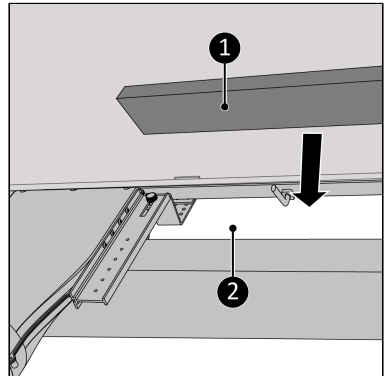

Figure 102.
15. Fill up the open spaces (Figure 102, pos. 2) with the delivered isolation foam (Figure 102, pos. 1), cut the foam if necessary*.